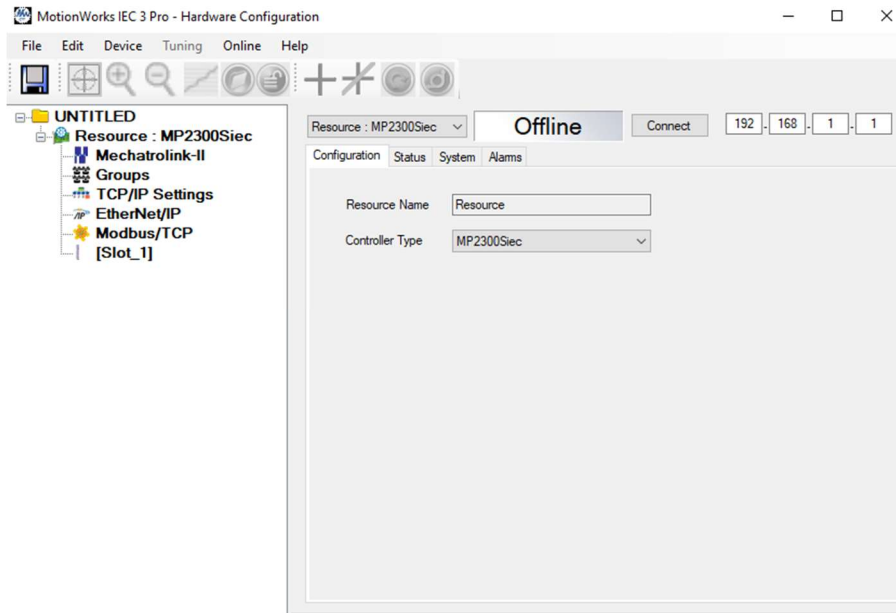

Figure 4: Hardware Configuration Window
- Once in the Hardware Configuration Window, ensure that the IP in the top right corner matches what is shown in Figure 4. Then hit the 'Connect' button to proceed.